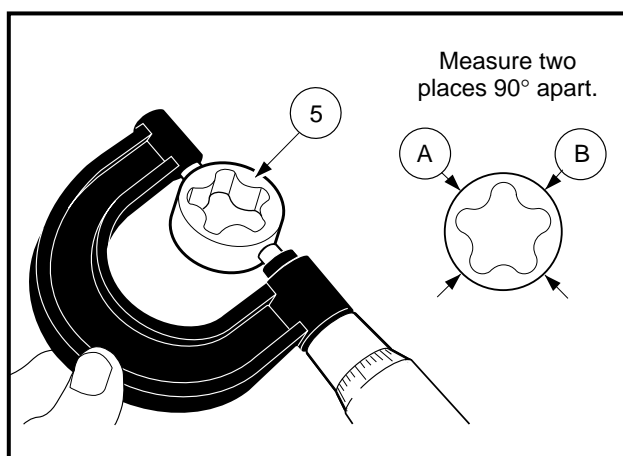

Figure 13-68 Measure O.D. of Outer Rotor
- 4.2. Using a micrometer, measure the diameter of the outer rotor at several points (**Figure 13-68, Page 13-33**).